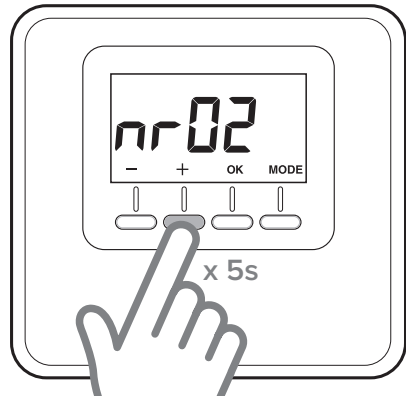

Fig. 15
- Hold the “+” key on the thermostat down for 5 seconds. The display will show the parameter “nr02” (Fig. 15).